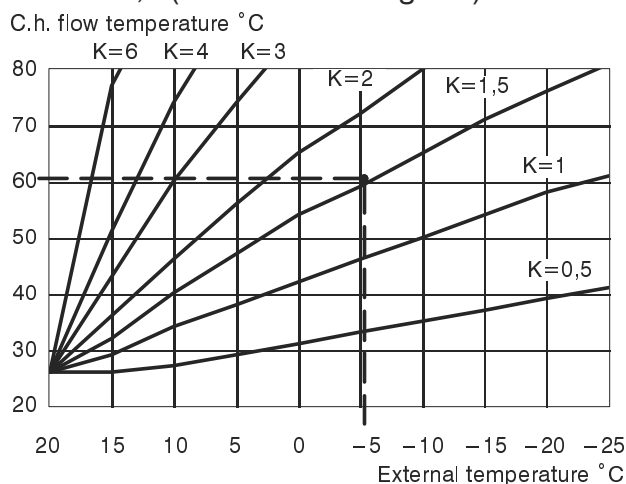
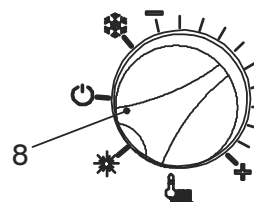

Fig. 7.7
Fig. 7.11
The curves given in the chart of Fig. 7.7 represent the c.h. flow temperature setting as a function of
The relationship between the external temperature and the c.h. flow temperature is represented by the coefficient K (Fig. 7.7) that can be set between 0 and 6 as hereafter explained.
E.g. to obtain a flow temperature setting of 60 °C when the external temperature is -5 °C, K must be set to 1,5 (dashed line in Fig. 7.7).
After setting the coefficient K, position the knob 8 as shown in Fig. 7.11 in order to obtain the c.h. flow temperature accordingly with the chart of Fig. 7.7.